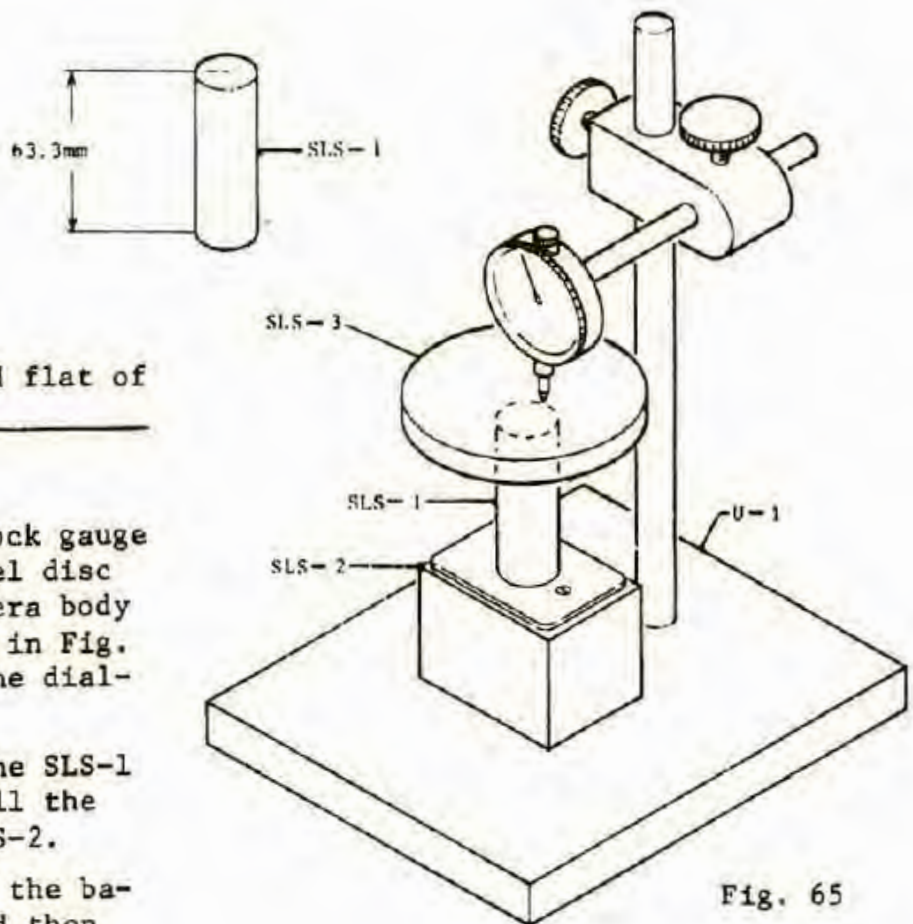

Fig. 65
- 1) Put the SLS-1 Block gauge and SLS-3 Parallel disc on the SLS-2 Camera body support as shown in Fig. 65 and then set the dial-gauge to Zero.